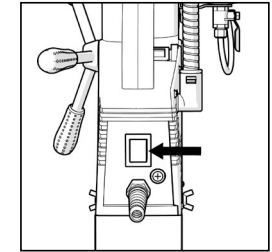

Fig. 4
- Operate the red switch (Fig. 4) situated at the rear of the machine to energise the magnet.